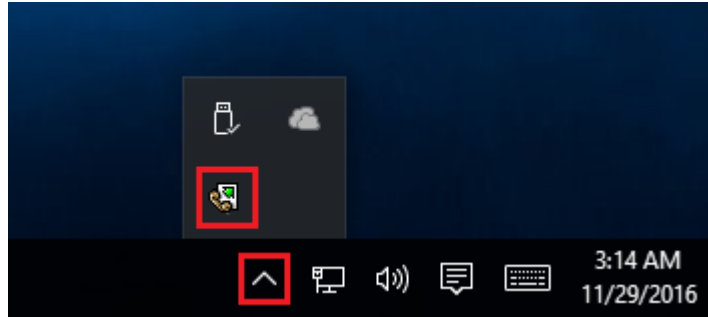

Fig. 6.1.2 Systray - panel near clock
- **Start in minimized state** - at start Advanced Serial Data Logger will automatically minimize the program window to the taskbar or to the Systray (fig. 6.1.2).